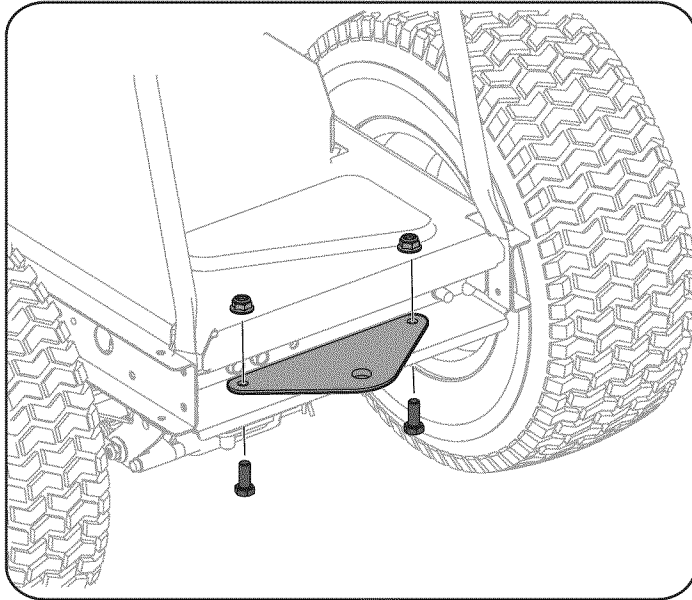

Figure 11
1. Position the hitch plate with the flat side up, as shown in Fig. 11. Secure using two bolts and hex nuts included in the hardware pack.